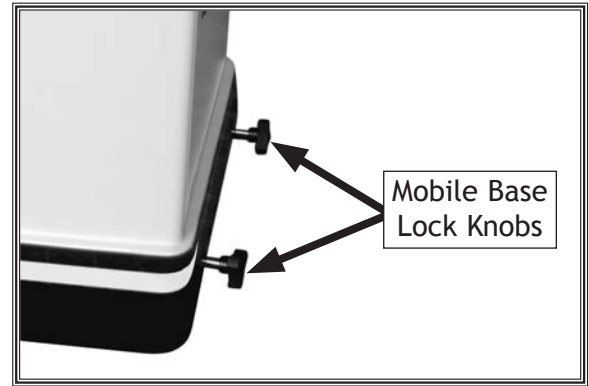

Figure 10. Mobile base lock knobs installed.
- Install (2) mobile base lock knobs (see **Figure 10**) so jointer will not easily move.